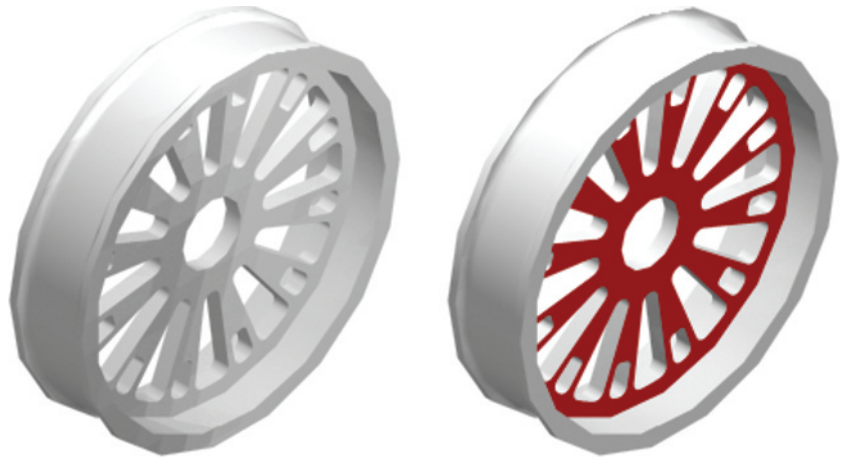

Fig. 18.18 Seventh example – Color faces tool
Seventh example – Color faces tool (Fig. 18.18)
3. Add lights and a material to the edited 3D model and render (Fig. 18.18).